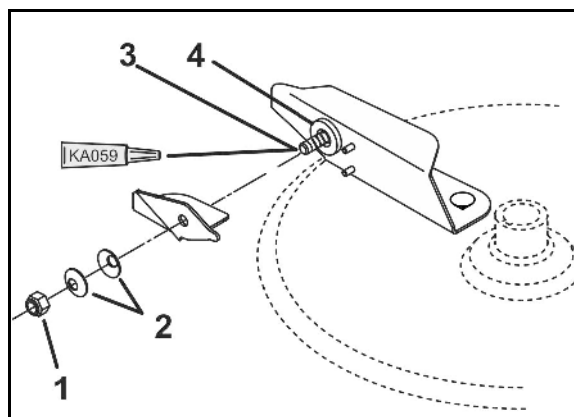

Fig. 91
- 2 x 8 screws of the leaf springs (Fig. 91/1)